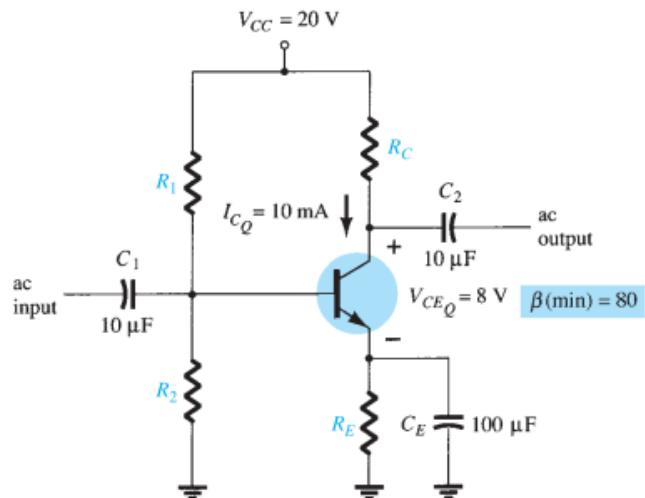

FIG. 4.63
**EXAMPLE 4.25** Determine the levels of  $R_C$ ,  $R_E$ ,  $R_1$ , and  $R_2$  for the network of Fig. 4.63 for the operating point indicated.